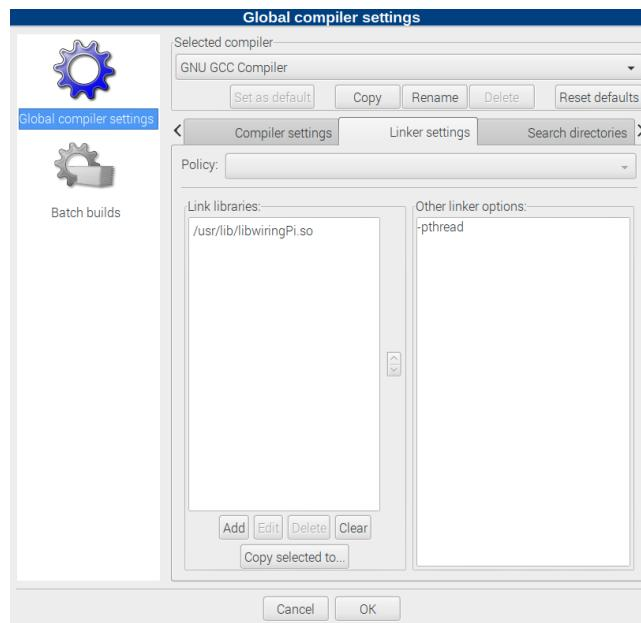

Figure 8: Code::Blocks linker settings
6. Now include the wiringPi libraries into Code::Blocks by opening the global linker settings in **Settings** → **Compiler** → **Linker Settings** and adding the library **/usr/lib/libwiringPi.so** to the **Link libraries** field (see figure 8).